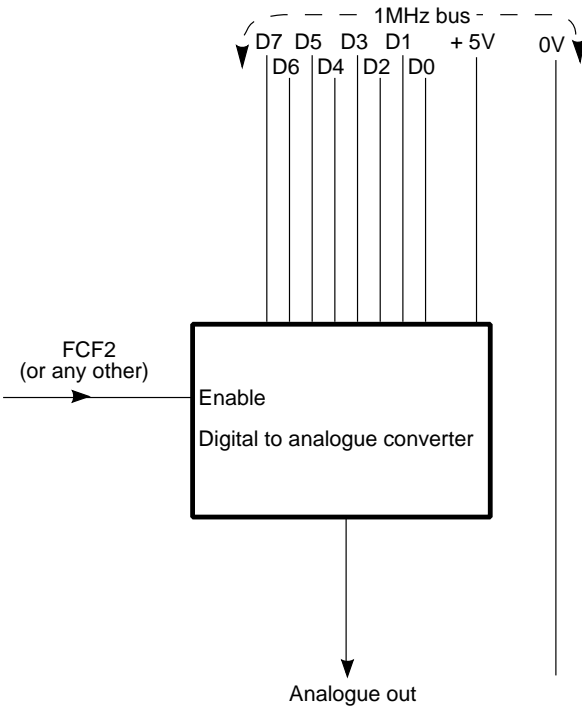

Fig. 1.8. Converting digital information to analogue
Figure 1.8 is another example of a device requiring the data bus, which is needed, of course, for receiving the digital data.
- 1.14 With reference to Fig. 1.8, if the maximum output is 2.55 volts, what output voltage is obtained when the digital data is 3F hex?